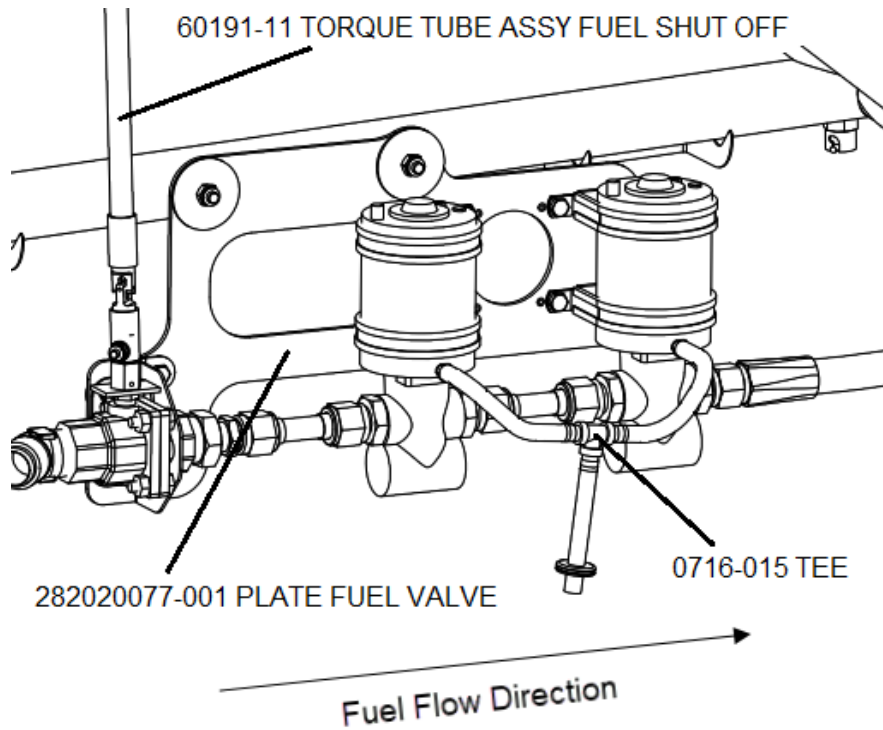

Figure 72-11
- g) Install new torque tube 60191-11 for fuel shutoff valve using hardware shown in Figure 72-11.
- h) Install drain lines connected by 0716-015 Tee through the existing Grommet on the bottom skin from fuel pumps. See Figure 72-11.